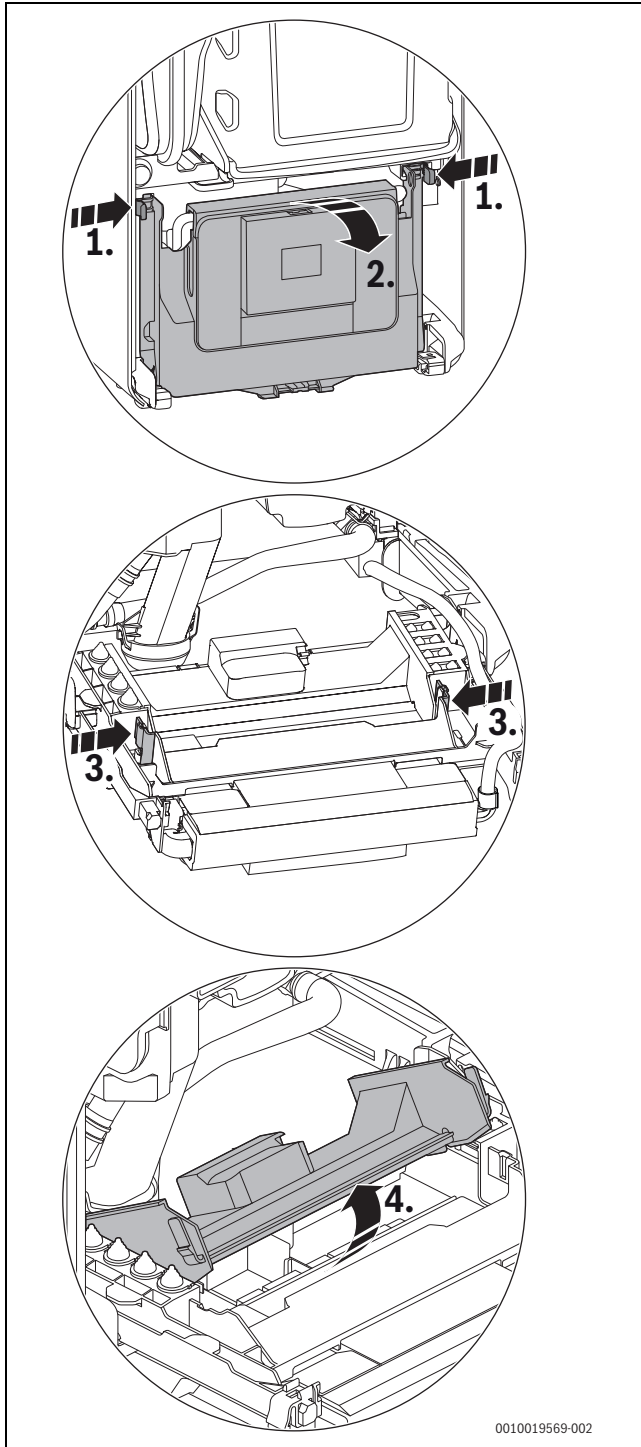

Fig. 61 Opening the cover
If the power cable is of insufficient length and is to be replaced, access the connection terminal (→ Fig. 61)
- ▶ Flip down the control unit (→ Fig. 61, Page 42).